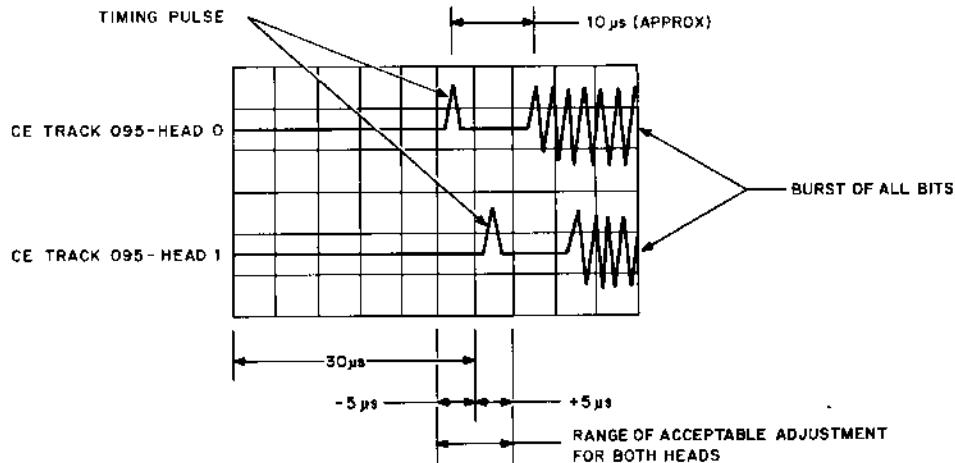

Figure 6-8 Sector Transducer Timing Diagram
- 7 Observe the time delay from the reference pulse to the peak of the timing pulse on data track 095 as shown in Figure 6-8. The delay from the end of the reference pulse to the timing pulse should be $30 \pm 5 \mu s$ for each head.
- 9 The maximum allowable adjustment range between the two heads is shown in Figure 6-8. If the range of the two timing pulses exceeds $10 \mu\text{s}$ (from the $30 \mu\text{s}$ time base), the read/write heads must be readjusted using the Read/Write Head Alignment procedures in Paragraph 6.9. If the adjustment range is exceeded, it is usually due to the read/write head three point spot check not being correct.